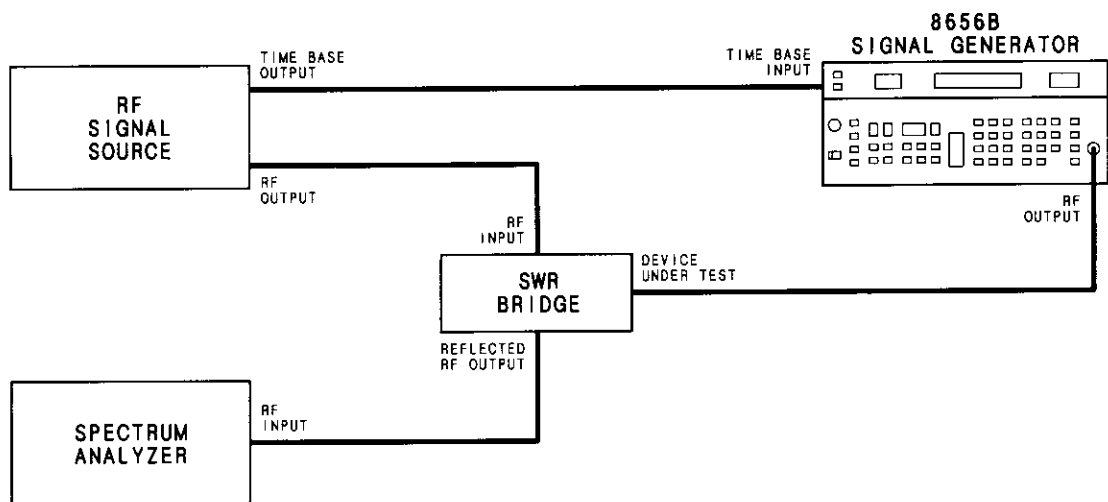

Figure 4-12. SWR Performance Test Setup (Out of Band)
2. Connect the equipment as shown in Figure 4-12.
7. Connect the equipment as shown in Figure 4-12.